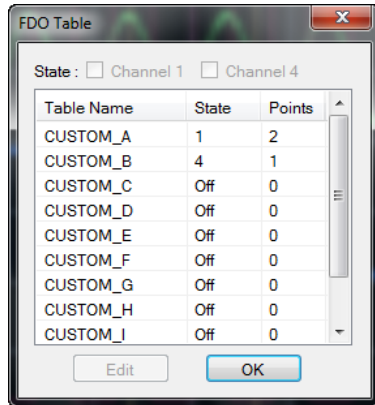

Figure 2-73 FDO Table dialog
- 2 The FDO Table dialog is displayed as shown in Figure 2-73 to allow you to select and configure the FDO table.